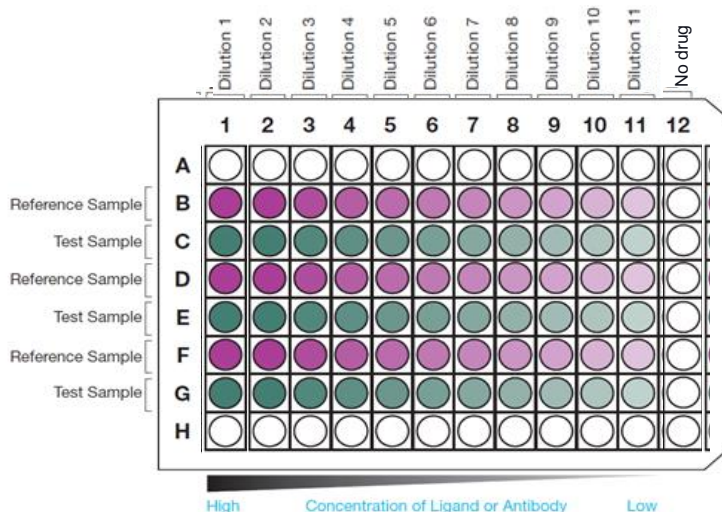

Figure 3. Representative Assay Plate Map
6. Transfer 15 μ L of the 3X sample dilutions from the MDP to the appropriate wells containing cells in the assay plate. Refer to Figure 3. Representative Assay Plate Map: